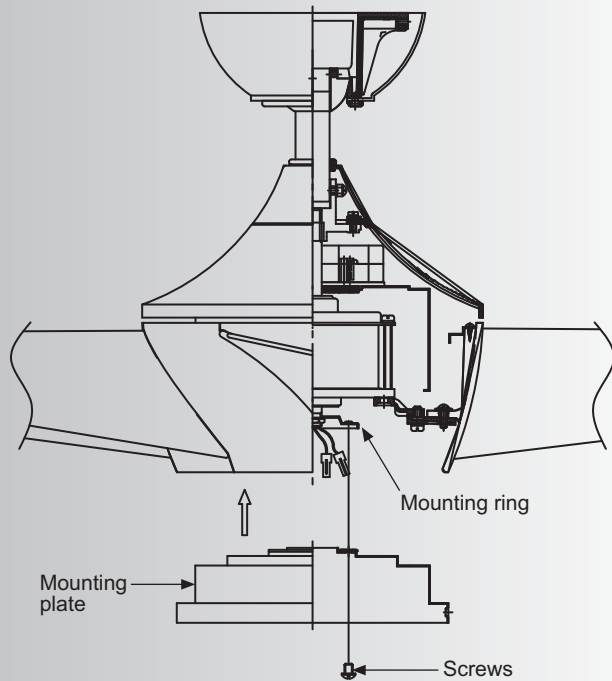

Fig. 16
Step 1. Loosen the two screws on the mounting ring attached to the motor shaft and "remove" and save the third screw. (Fig. 16)
Step 2. Place the key holes on the mounting plate over the 2 screws previously loosened from the mounting ring, turn mounting plate until it locks in place at the narrow section of the key holes. Secure by tightening the 2 screws previously loosened and the one previously removed. (Fig. 16)